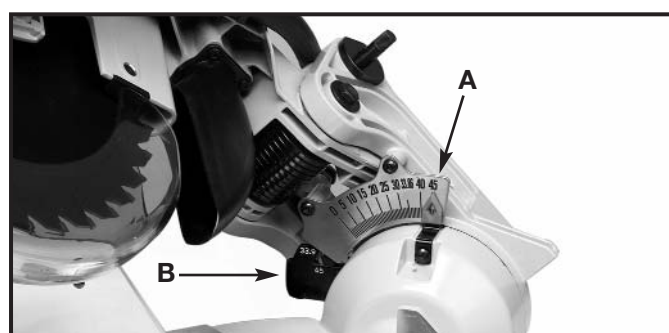

Fig. 25
3. Tilt the cuttinghead left as desired until it stops on plate (A) Fig. 23. **NOTE:** Fig. 25 illustrates the sliding plate positioned for 45° left.
1. Position the bevel detent plate so that the desired angle (A) Fig. 25 is exposed.
3. Tilt the cuttinghead left until it stops on the plate (B) Fig. 25.